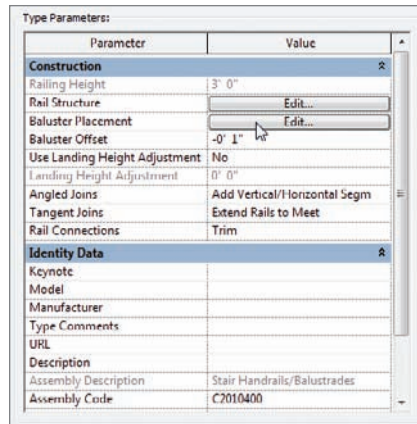

FIGURE 10.17 Click Edit next to Baluster Placement.
6. In the Baluster Placement row, click the Edit button, as shown in Figure 10.17.